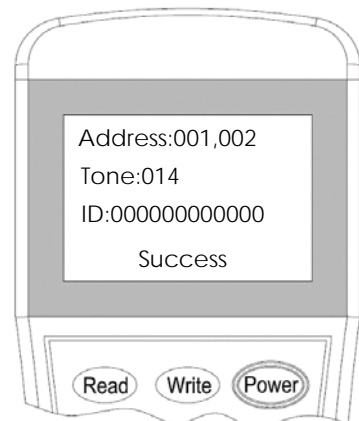

Fig.10 Configuration information
- configuration information of the Addressable Flashing Beacon Base, as shown in Figure 10.
Under the main menu, as described in Section 3.2, the configuration parameters of the Addressable Flashing Beacon Base can be viewed by clicking the button **"Read"** or **"1"**, as shown in Figure 10.